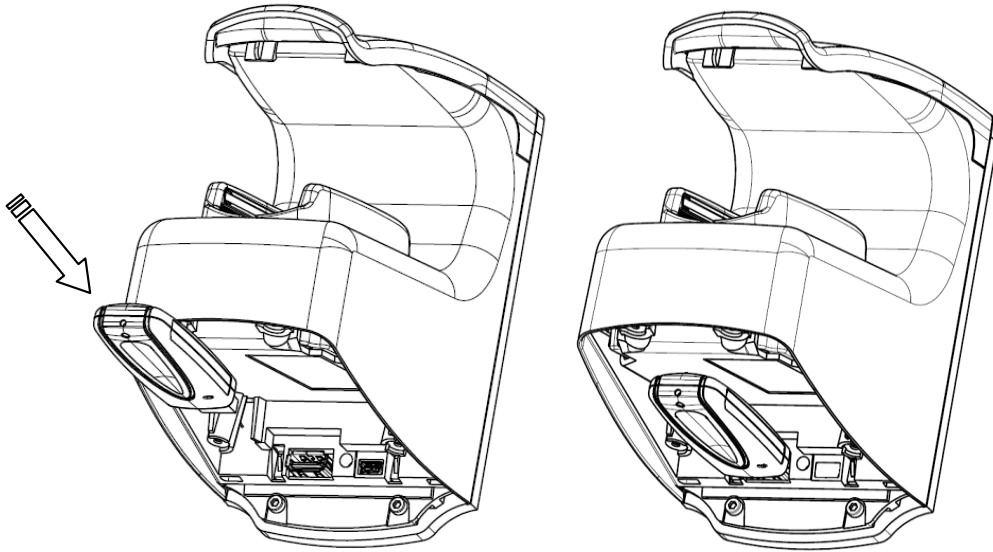

Figure 10: USB Mass Storage Key plug
10. At this stage, a USB mass storage key can be plugged into the terminal for configuration (see Figure 10). For more details about product configuration and setting, refer to MorphoAccess® VP Series User Guide. Once configuration is completed, remove the USB mass storage key.
9. At this stage, a USB mass storage key can be plugged into the terminal for configuration (see Figure 10). For more details about product configuration and setting, refer to MorphoAccess® VP Series User Guide. Once configuration is completed, remove the USB mass storage key.